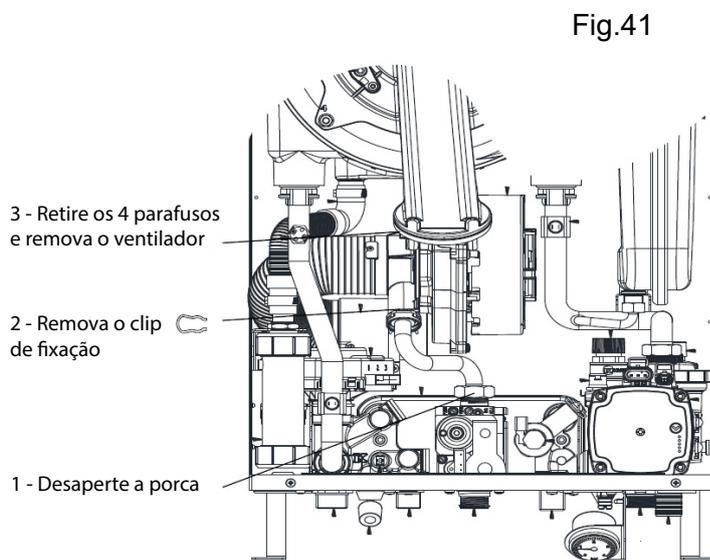

Fig.41
8.4 REMOVER / SUBSTITUIR O VENTILADOR (Fig. 41)